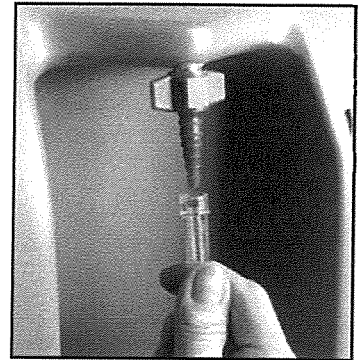

Figure 3
- b. Attach the oxygen tubing directly to the connector (Figure 3).